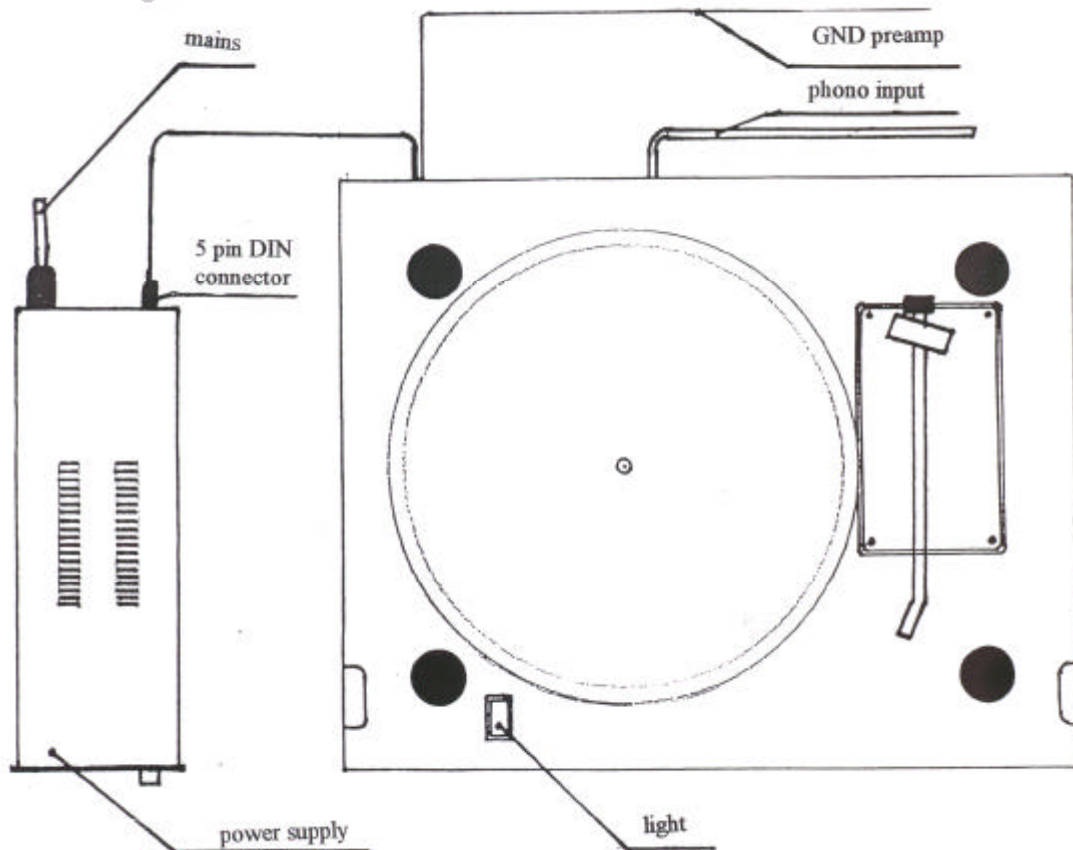

Fig. 8.
- a) The cable at the back of the turntable has a five pin plug which should be inserted into connector at rear of power supply. (Fig. 8)
(See Fig. 8)